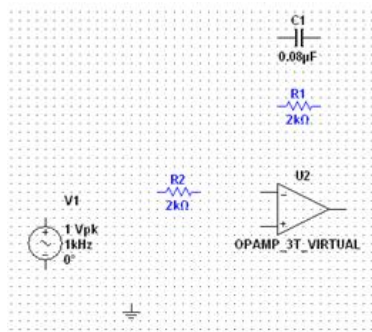

Figure 6. Your Design at the End of Stage 2
7. Your design should look like Figure 6.